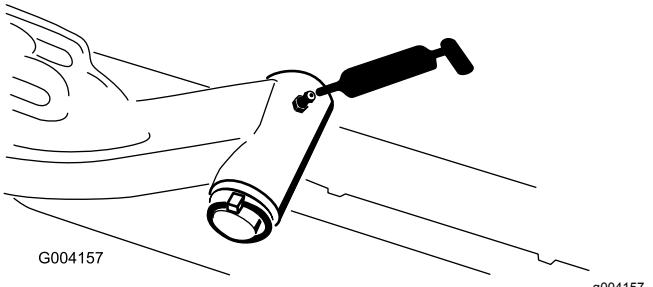

Figure 41
- Lift-arm pivot shaft (1 each) (Figure 41)